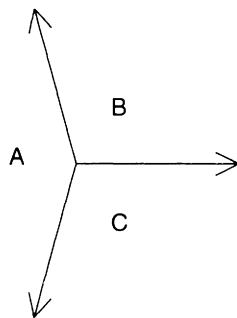

Figure 2.58
**Bow's notation** is a method of labelling forces in space diagrams and force diagrams. In a space diagram the spaces are labelled with capital letters, as shown in Figure 2.58.